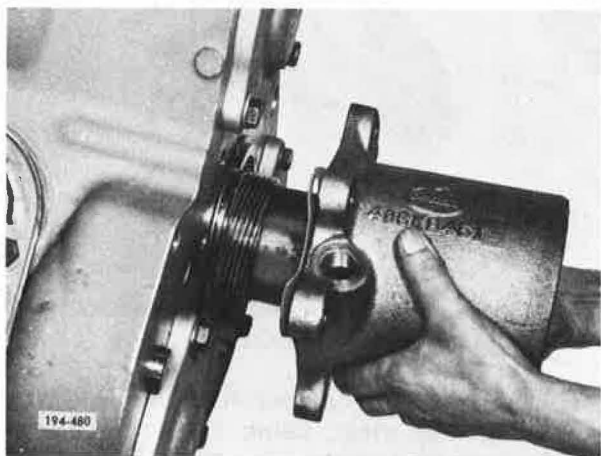

Figure 5-273. Removing Cover
4. Remove rear mainshaft rear bearing cover. See Figure 5-273.